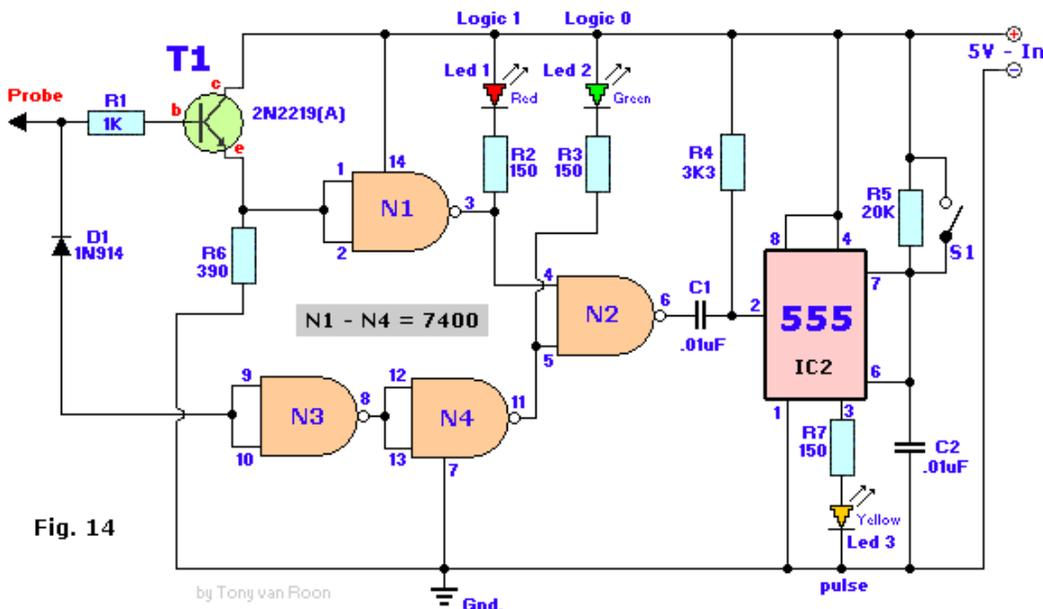

Fig. 14
**Fig. 14, Logic Probe:** Provides you with three visible indicators; "Logic 1" (+, red led), "Logic 0" (-, green led), and "Pulse" (yellow led). Good for TTL and CMOS. The yellow or 'pulse' led comes on for approximately 200 mSec to indicate a pulse without regards to its width. This feature enables one to observe a short-duration pulse that would